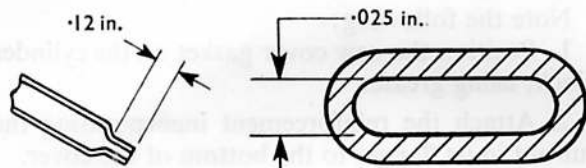

Fig. A.12. Dimensional details of crimped end of rocker shaft oil pipe. The shape and aperture width of the crimped portion are shown in the enlarged section
4. If there is evidence of inadequate lubrication of the rocker gear, rotate the engine and check for oil flow from the oil feed drilling in the cylinder head. Check the crimped end of the rocker shaft oil pipe (Fig. A.12).